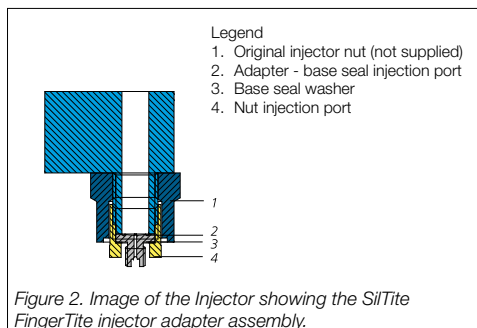

Figure 2. Image of the Injector showing the SiLTite FingerTite injector adapter assembly.
5. From the SiLTite FingerTite kit, locate the base seal injection port adapter (2), the base seal washer (3) the injection port nut (4) and assemble as displayed in the Figure 2.
6. Insert the base seal injection port adapter (2) and base seal washer (3) into the base of the injector and tighten with the injection port nut (4) clockwise until firm. Replace the original injector nut (1). Replace the thermal insulator.